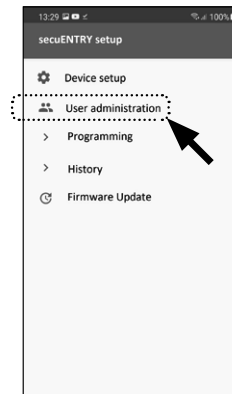

Fig. 65
- 3 Tap on "User administration" in the submenu (Fig. 65).